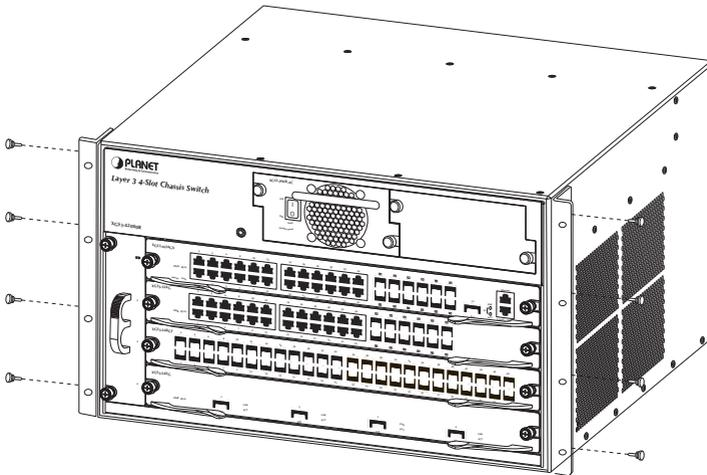

Figure 3-1 Installation XGS3-42000R Rack-mounting Brackets
Step2 Attach a rack-mount bracket to each side of the XGS3-42000R with supplied screws attached of the package. Figure 3-1 shows how to attach brackets to one side of the XGS3-42000R.